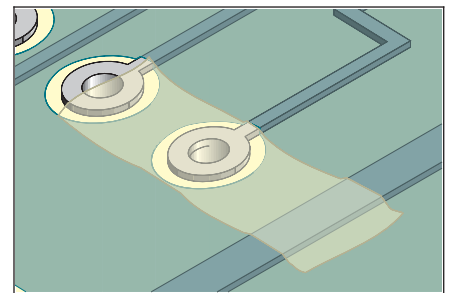

Figure 2 Place tape over the lifted land.
5. Place a piece of Polyimide tape over the lifted land and press the land down into the epoxy and into contact with the base board material. (See Figure 2.)